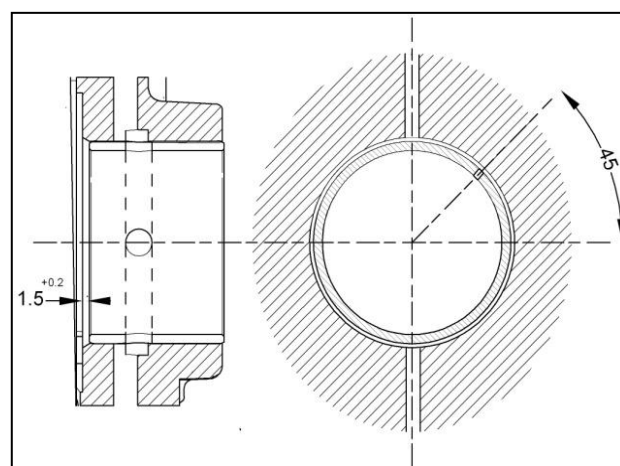

Fig. 10.2
2. Apply loctite 609 on bearing outer face. Insert main bearing using tool T-09-00-0118 and check that bearing oil hole and crankcase oil grooves are matched. Maintain position of clinch joint of bearing (Fig. 10.2)